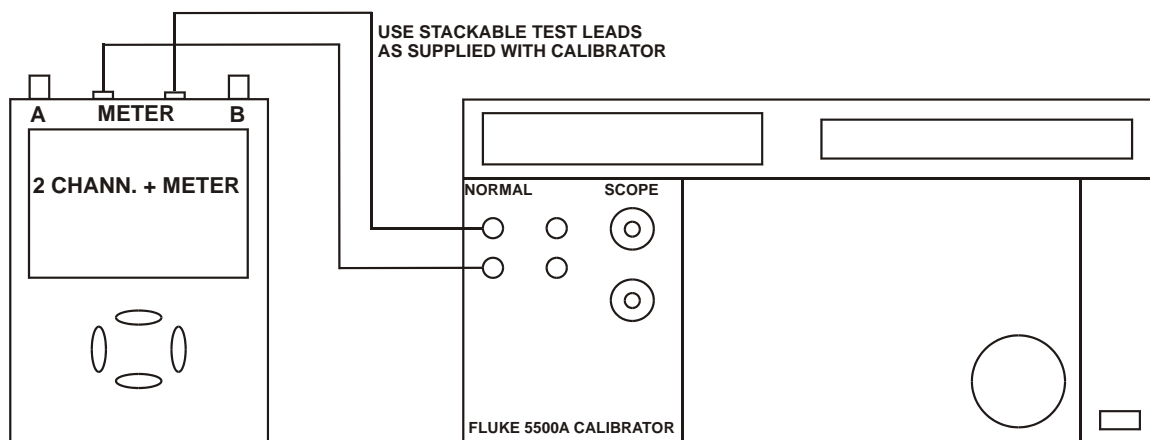

Figure 5-17. 5500A NORMAL Output to Test Tool Banana Input
2. Connect the test tool to the 5500A as shown in Figure 5-17.